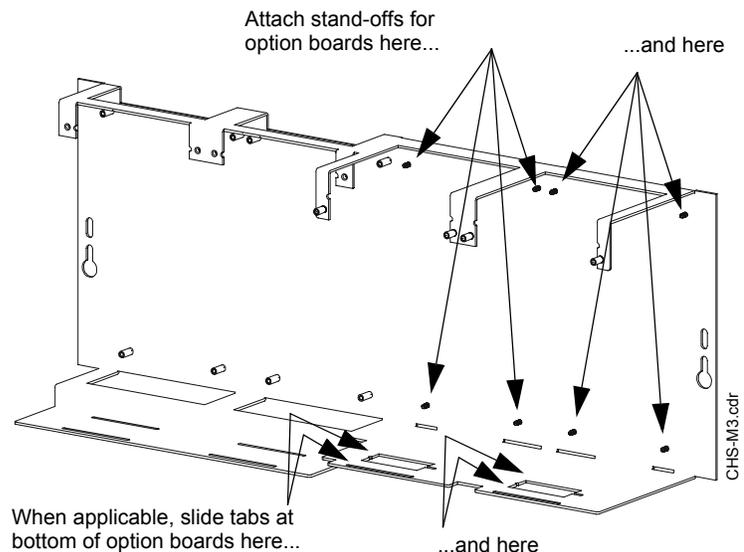

Figure 3.5 Mounting Option Boards in CHS-M3
- Install four 1 inch (25.4 mm) stand-offs onto the chassis as shown in Figure 3.5.